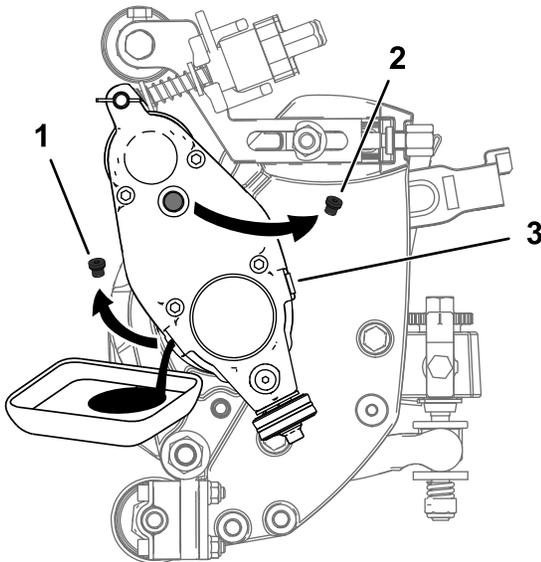

Figure 28
5. Tip the cutting unit vertically until the drain port is at the bottom to ensure complete drainage (Figure 28).